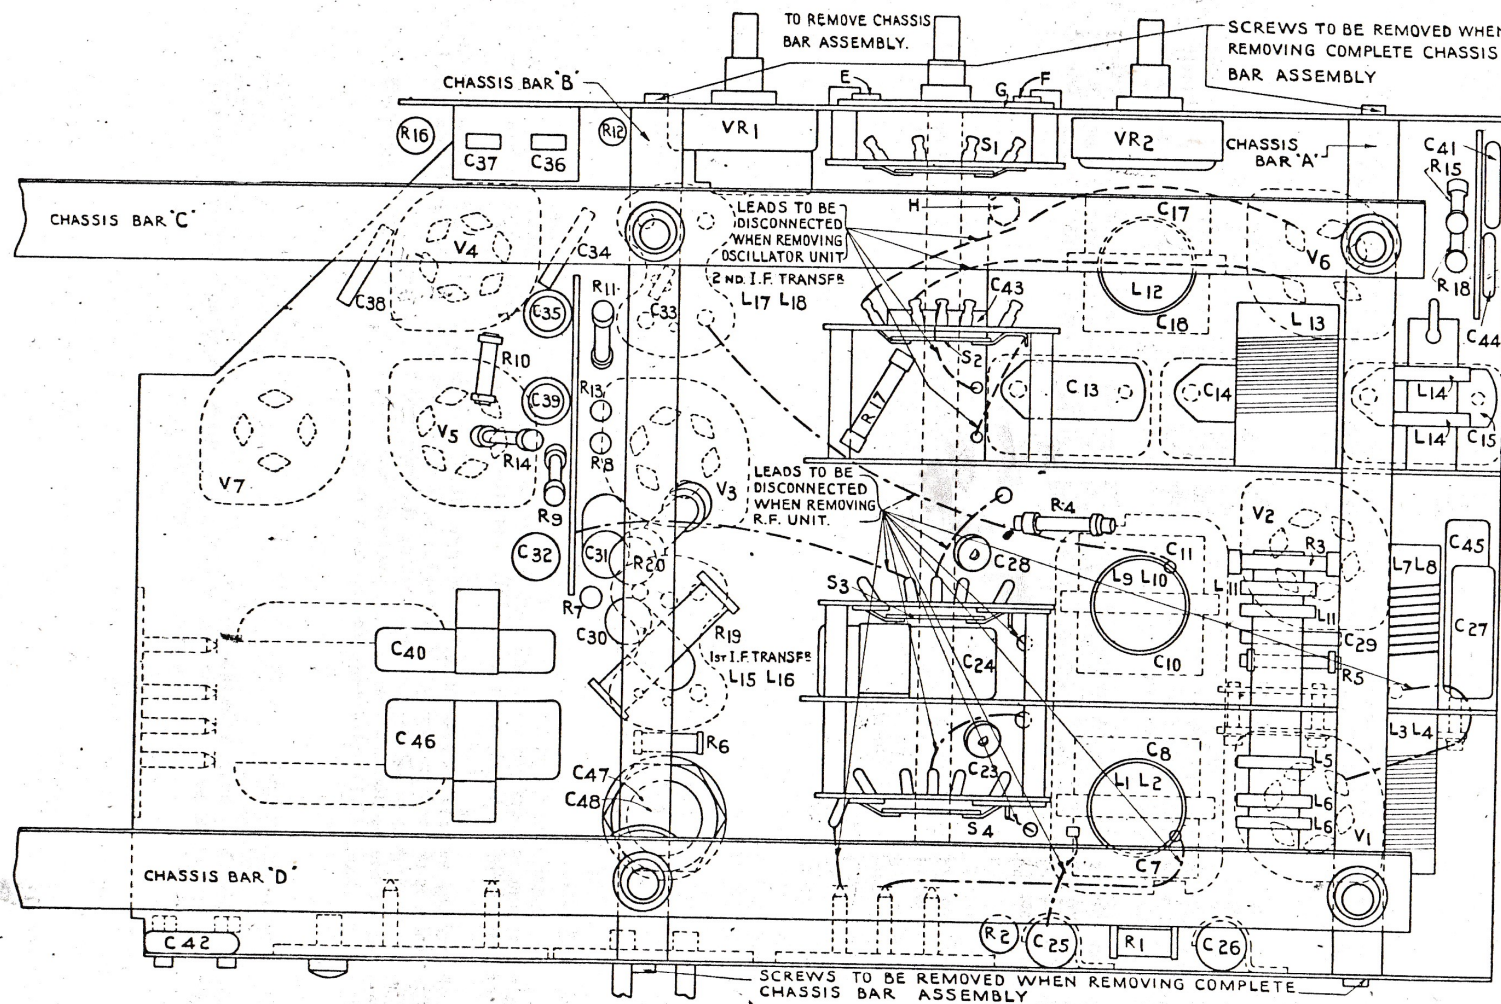

Fig. 5. View of underside of chassis.
To remove either unit first remove the eight cheese headed screws which hold the transverse chassis bars (A and B Fig. 5) to the vertical faces of the chassis. The transverse bars may now be removed with the two longitudinal bars (C and D Fig. 5) still mounted thereon.
Also unscrew the two self tapping screws (E and F Fig. 5) which hold the switch location plate (G Fig. 5) to the front of the chassis, and after turning the switch to the gramophone position (fully clockwise) withdraw the switch spindle complete.
1. Unsolder the oscillator grid and cathode wires which run from the oscillator valve holder to the switch member (S2 Fig. 5) and disconnect the two wires from the gang condenser. All four wires are indicated on Fig. 5 and should be unsoldered at the switch end.
2. From the bottom of the chassis, unscrew the self tapping screw (H Fig. 5) which holds the front edge of the oscillator unit to the chassis. This screw is located one inch from the front edge of the chassis and one inch to the right hand side of the gang spindle.
The aerial section is that nearer the back of the chassis. In this section there are five wires (indicated on Fig. 5) to be disconnected as follows:—
1. Unsolder the two gang condenser leads to the switch member (S4 Fig. 5) at the switch end.
2. Disconnect the lead from the aerial socket A1 at the switch (S4 Fig. 5) and that from aerial socket A2 at the short wave coil (L1, L2).
In the 1st detector section there are five leads (indicated in Fig. 5) to be disconnected in the following order:—
1. Unsolder the two gang condenser leads from switch member (S3 Fig. 5).
2. Disconnect the A.V.C. lead (brown insulation) running from the resistance panel to the dummy lug on the switch member (S3 Fig. 5) and also the H.T. lead (red insulation) running from the 1st I.F. transformer to the top of the band 2 short wave coil (L9, L10).